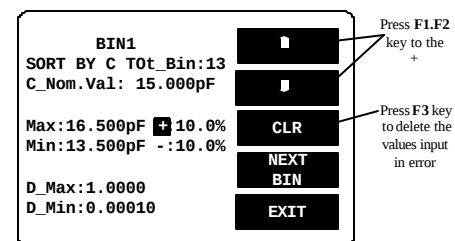

Figure 8-18
- Press  $\Delta$  key. Please refer to Figure 8-18 below.